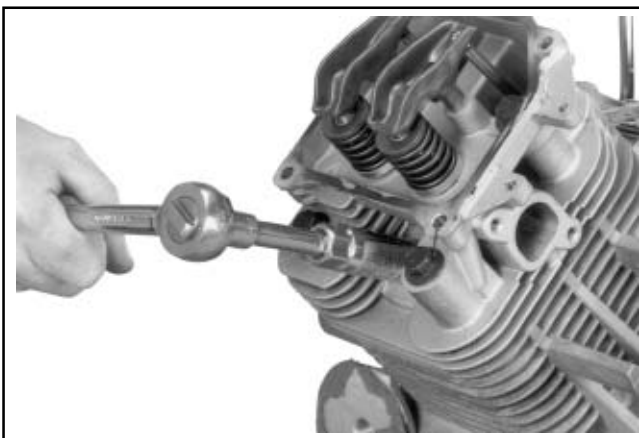

Figure 11-48. Installing Spark Plugs.
- Install new plugs and torque to **24.4-29.8 N·m (18-22 ft. lb.)**. See Figure 11-48.